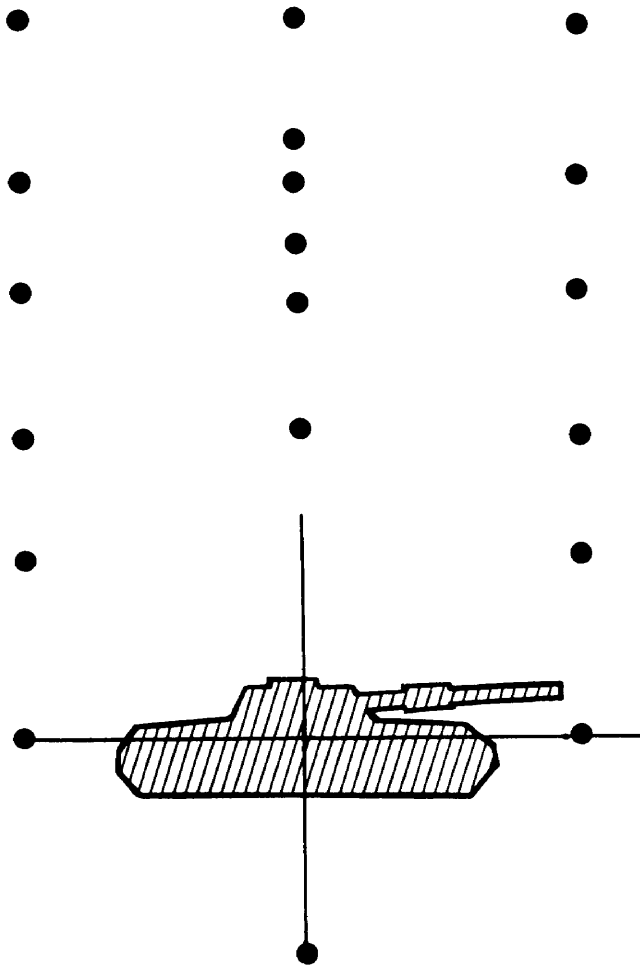

Figure 20. Sight picture, 106-mm rifle.
- (1) Since the reticle of the Sight is a multiple reticle and the aiming dots for this weapon are off center, the gunner is required to select the correct range dot and then obtain the correct Sight picture in the center of the Sight reticle. For example, the gunner determines the range to be 1,000 meters. He then aligns the target between the two 1,000-meter dots as shown in figure 20. The interval between the reticle dots is 200 meters; therefore, targets at other ranges require both range and center line interpolation. For example, a tank at a range of 900